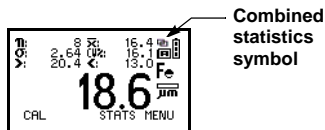

Figure 35. Reading screen with all statistics
- j. When readings are combined a  symbol will be displayed on the Reading Screen (Figure 35).